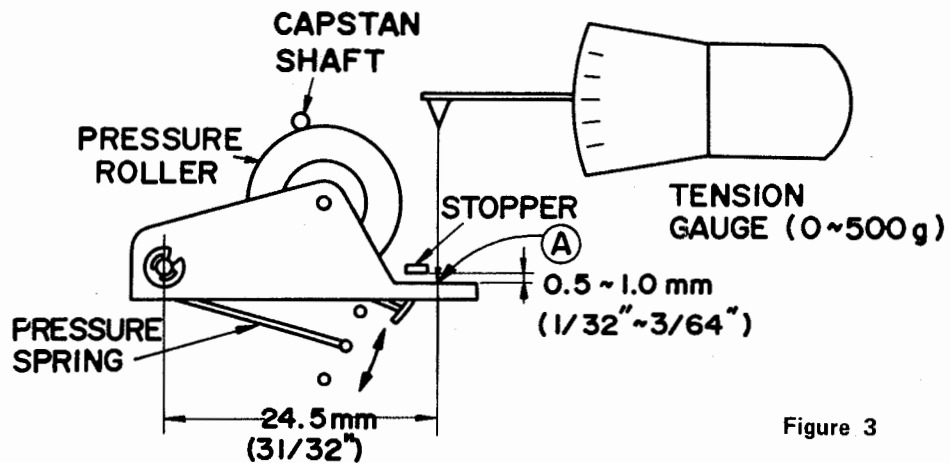

Figure 3
**PRESSURE ROLLER PRESSURE ADJUSTMENT (Refer to Figure 3)**